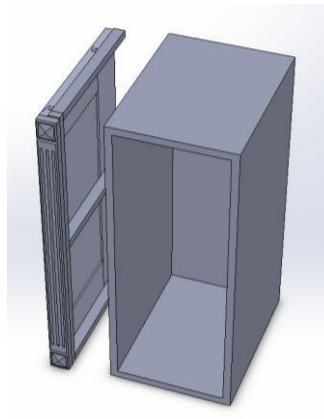

Fig. 38
- fix the spacer to the side panel of the cabinet using crews 4x40, place the screws at the level of the vertical and horizontal mounting plate (Fig. 38)